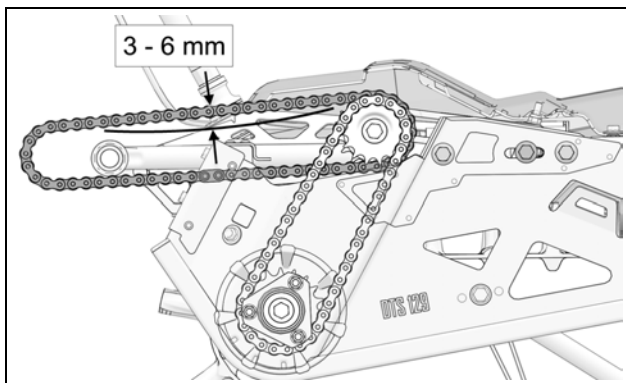

Figure 11
- Once the secondary drive chain tension is set, finalize tension adjustment of primary drive chain. Apply pressure at center of the two drive sprockets. The chain should have 3-6 mm (1/8 -1/4 in.) of play. Re-adjust until the right amount of play is obtained. See Figure 11.